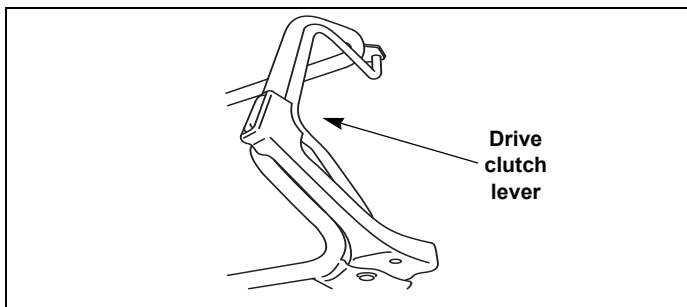

Fig. 4-27
5. **To drive the mower forward:** Step toward the handle while pushing the drive clutch lever forward to engage the transmission. Make sure the lever is pushed forward until it touches the handle. Fig. 4-27